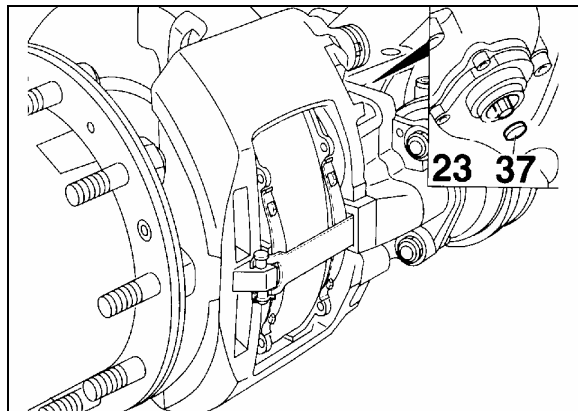

FIGURE 27: ADJUSTER PINION
- Remove cap (37, Fig. 27).
- Using a box wrench (8 mm), turn the adjuster pinion (23, Fig. 27) counterclockwise about 2-3 clicks to increase running clearance. By operating the braking system about 5-10 times (30 PSI or 2 bar), the wrench should turn clockwise in small increments if the adjuster is functioning correctly (Figs. 27 and 28).